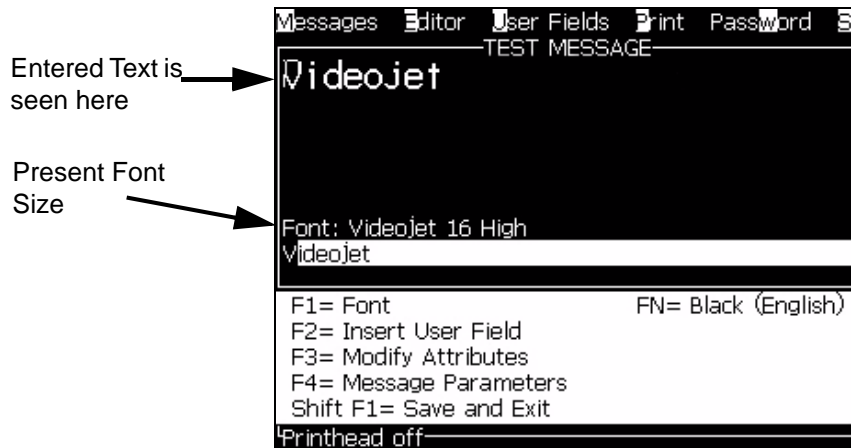

Figure 5-5: Create New Message
- 4 Press the *Enter* key. The Message Editor screen appears (see Figure 5-5 on page 5-24).